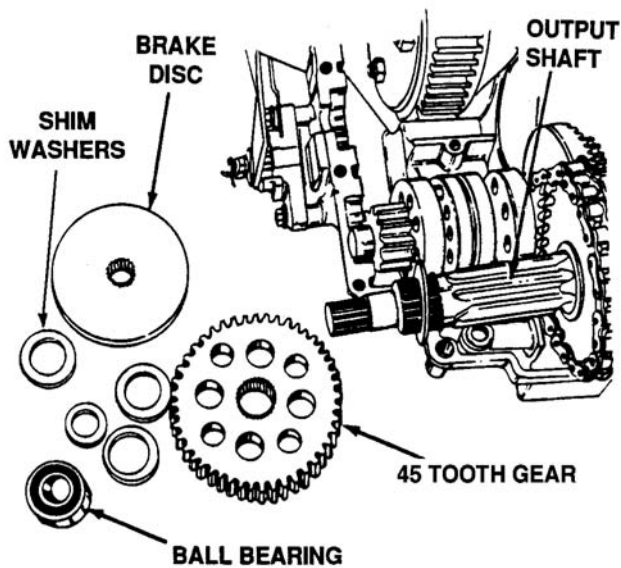

Figure 5-42. Removal of 45 Tooth Gear
- Remove the 45 tooth gear from the output shaft and inspect for damage or wear. Replace if necessary. See Figure 5-42.